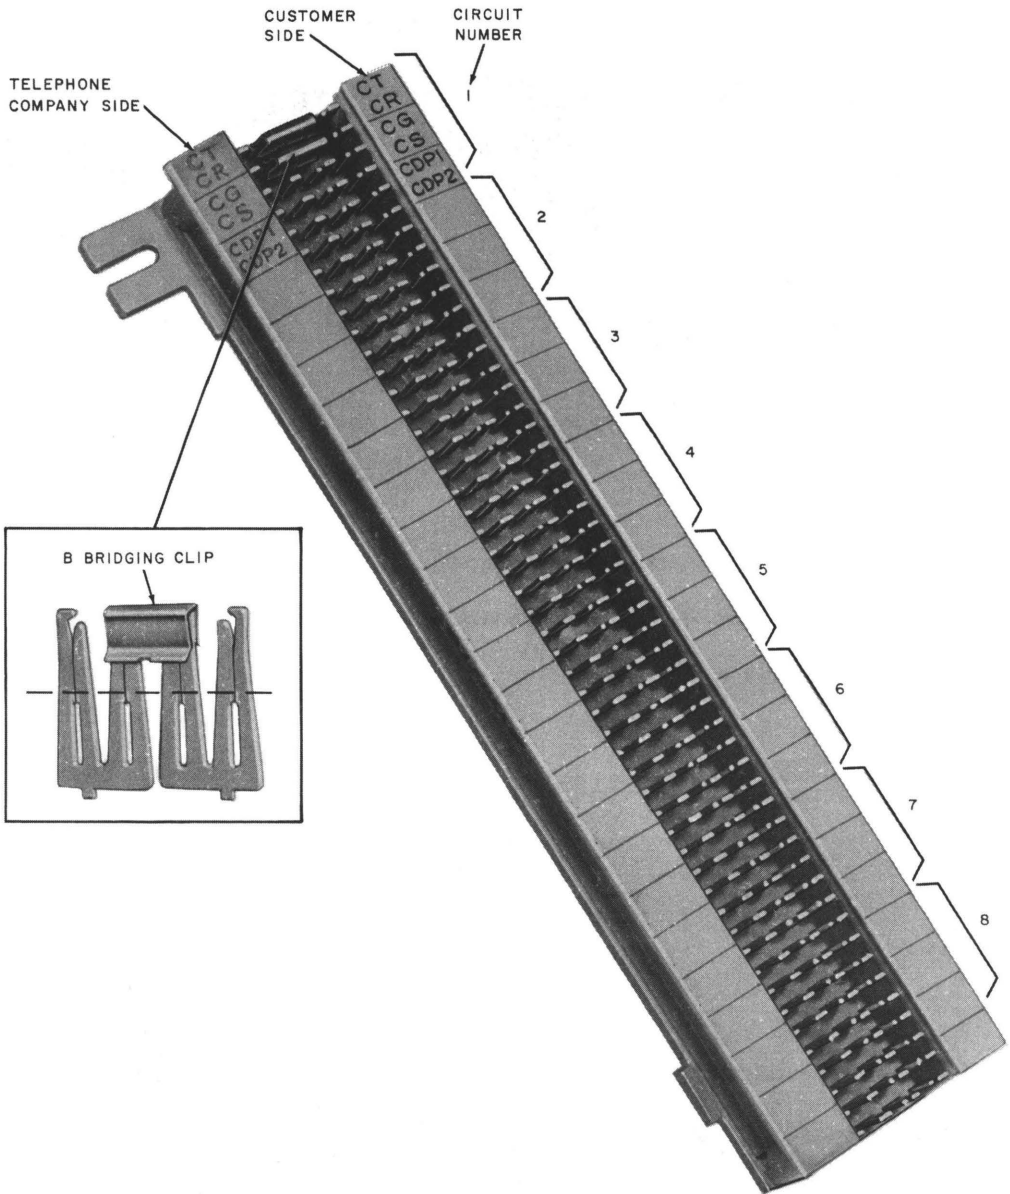

Fig. 4—66M1-50 Interface Connecting Block
- Blocks, Connecting, 66M1-50 (as required, Fig. 4)
- Clip, Bridging, B (Fig. 4)
3.04 Connect two A25B connector cables to P2 and P3 on the 607A panel and terminate at the customer end on the 66M1-50 interface connecting block. (Stencil lead designations on the fanning strip as shown in Fig. 4; see Tables B and C for connections.)
6.01 For connection information, refer to Tables A, B, C, and D and Fig. 4, 6, and 7.